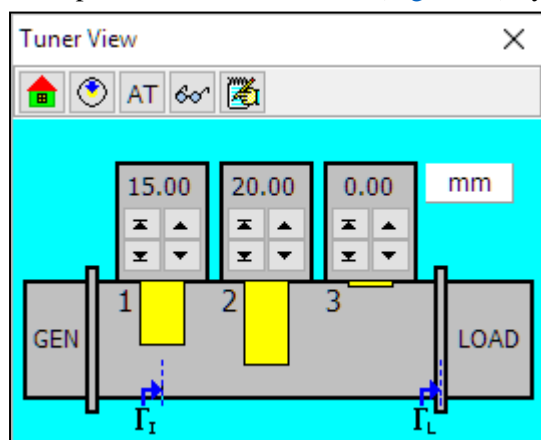

Figure 62. Tuner View window.
- Open Tuner View window (Figure 62) by clicking **Tuner|View** menu item or  button.